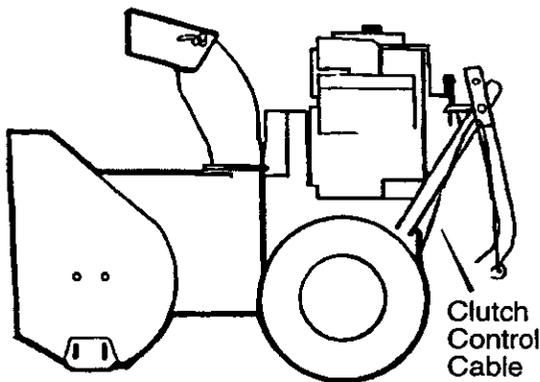

Figure 1
Figure 1 shows the snow thrower in the shipping position.
- Cut the ties that secure the **clutch control cables** to the lower handle. See Figure 1. Move the cables away from the motor frame.